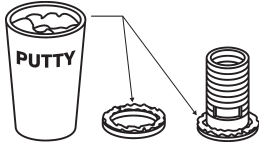

figure 3
6. Apply a bead of clear silicone or plumbers putty around the Drain Body and pass it through the drain hole (figure 3).
7. Apply plumbers putty to the Washer and slide it over the bottom of the Drain Body (figure 3).